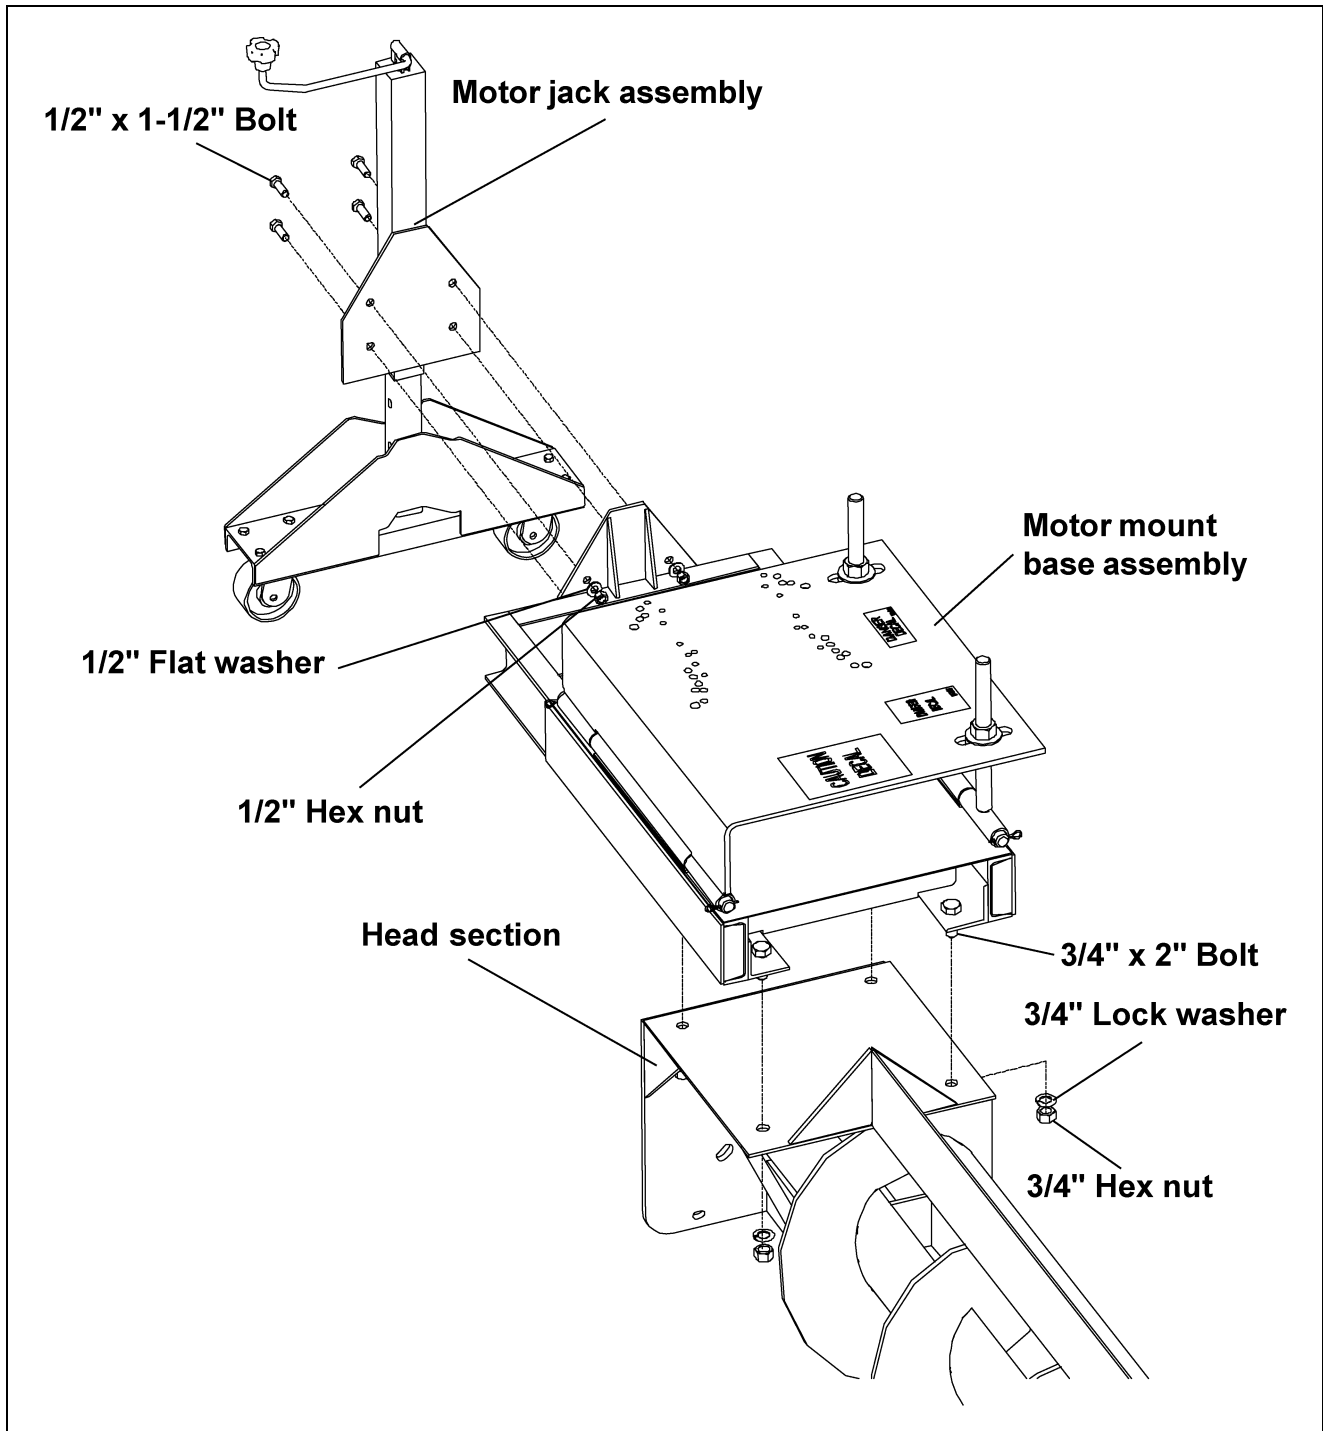

Figure 5V
- A. Attach the motor mount base assembly to the head section using four (4) 3/4" x 2" bolts, lock washers and hex nuts. (See Figure 5V.)
- B. Attach the motor jack assembly to the motor mount base assembly using four (4) 1/2"-13 x 1-1/2" bolts, 1/2" flat washers and 1/2" hex nuts.